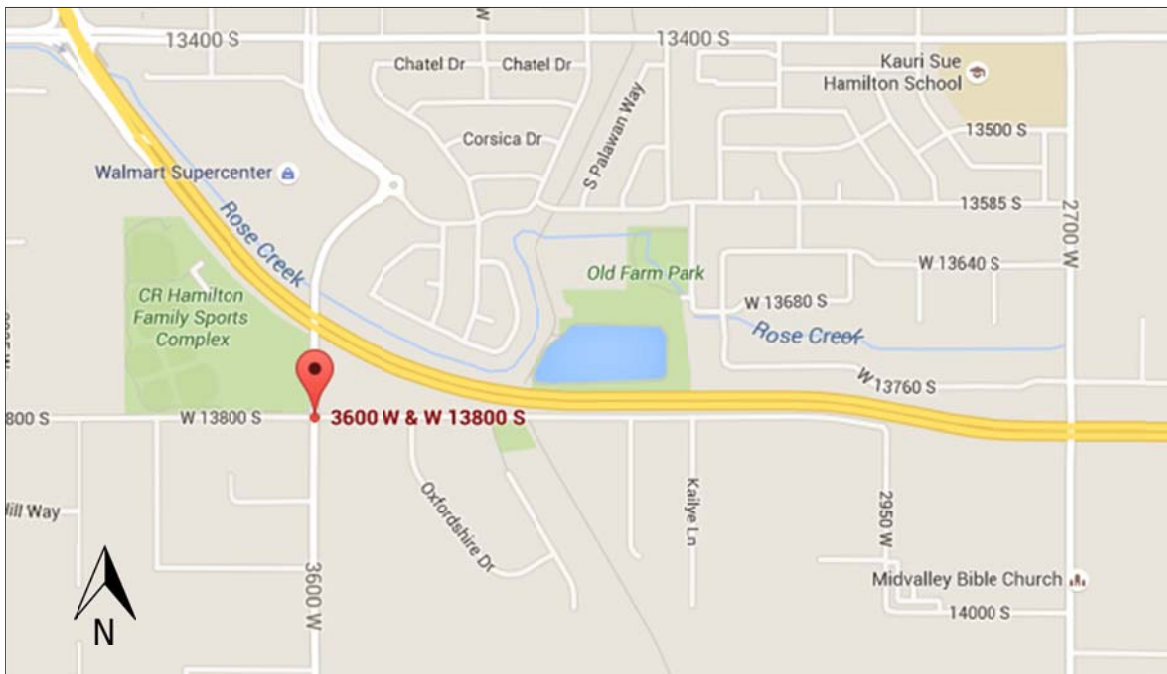

Figure 3: 3600 W and 13800 S (maps.google.com 2015).
- 3600 W and 13800 S (see Figure 3)